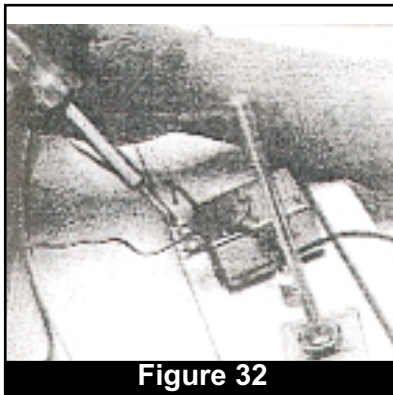

Figure 32
****NOTE: The tops of the terminals should face down (toward the actual top of the heating module). (Fig. 32)**